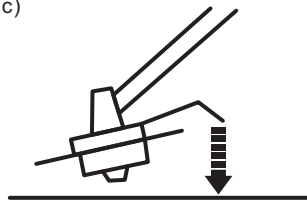

Fig. 27c
9. The trimmer head is equipped with a bumper (B13) helping to cut the trimming line (B12) while operating. Simply tap the bumper on a firm surface and the spool will release fresh trimming line. (See Fig. 27c)